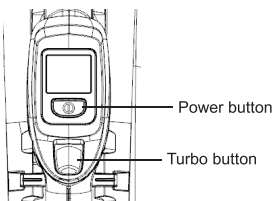

Fig. 19
1. Press the power button "  " on Digital display to light the screen (Fig 19).
4. The blower can provide maximum air speed when depressing the turbo button (Fig 19).